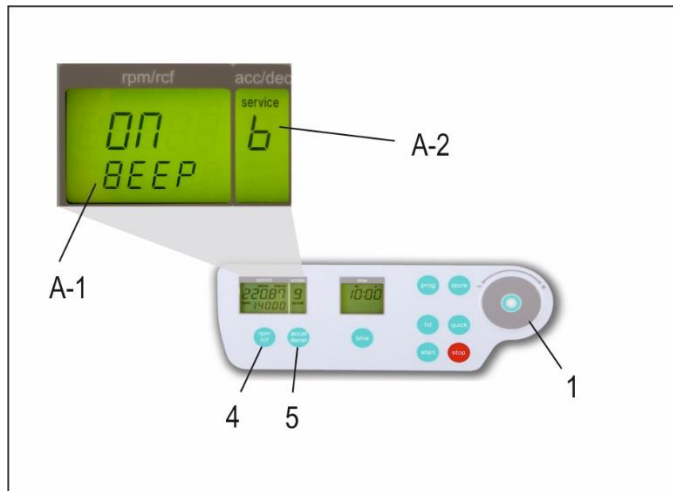

Figure 10
Proceed as illustrated, under point 1.7.1, to enter this program mode, press the key, "accel/decel" (5). In the display; "accel/decel" (A-2) flashes the word, "service". Select the letter, "b" with the control field (1). As a result, appearing in the display, "rpm/rcf" (A-1), the word "ON/BEEP". By pressing the key, "rpm/rcf" (4), the keyboard sound (On) or (Off) can be turned on, with the control field (1), (see Figure 10).